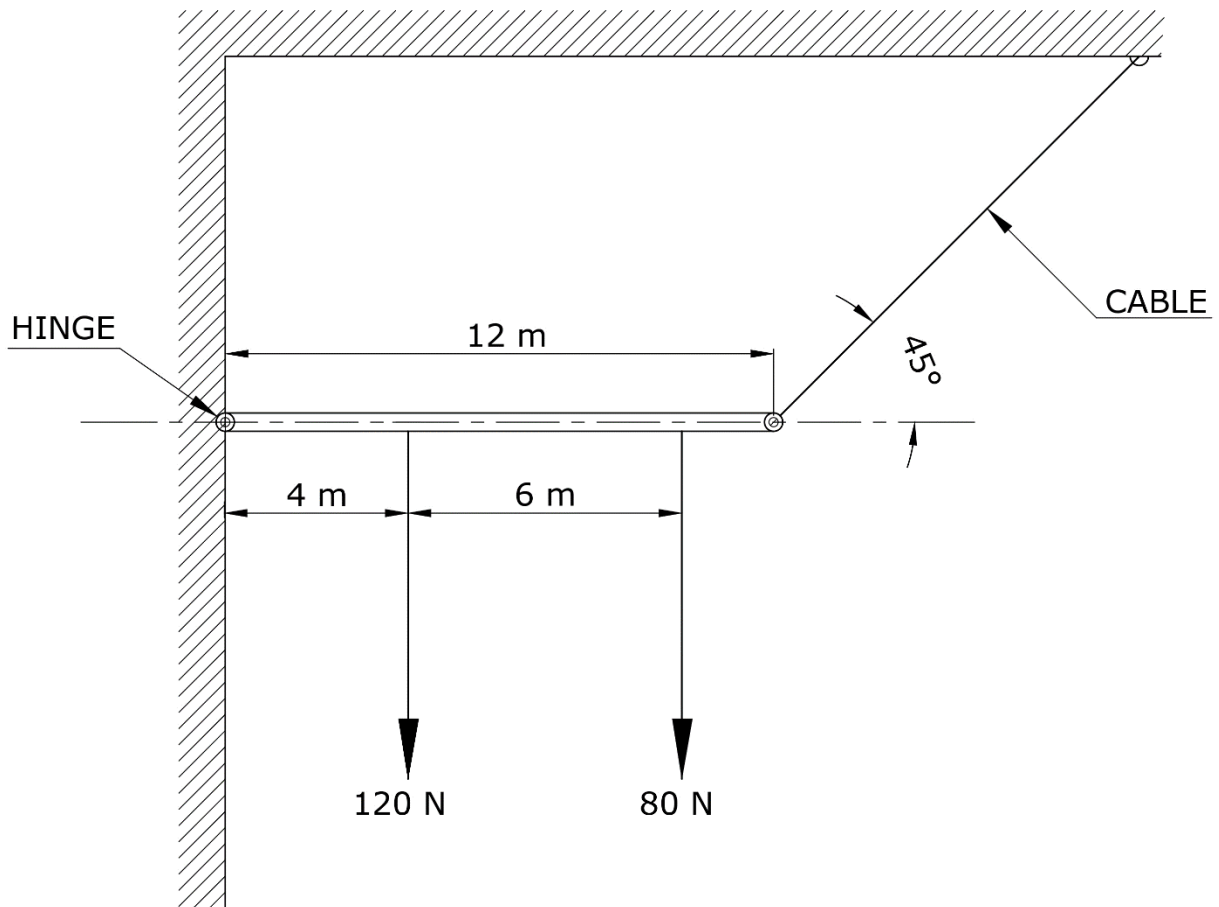

Figure 5b
A light 12 m beam shown in Figure 5a and Figure 5b is hinged at the left end and carries two parallel loads. The beam is kept in a horizontal position by a cable from the right end.
a) Copy, the space diagram shown in Figure 5b, using a scale of 20 mm representing 1 m. (2)
- i. tension in the cable; (5)
- ii. reaction at the hinge. (6)